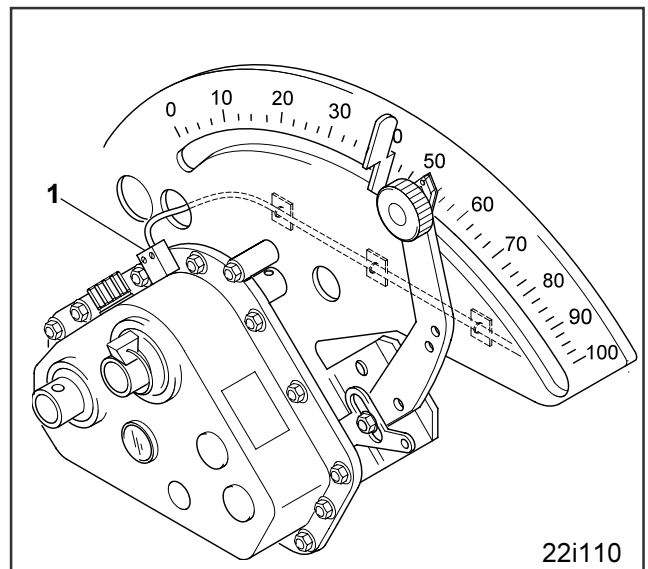

Fig. 26.6
- on implements without track markers as soon as the distance sensor (Fig. 26.6/1) does not send any impulses, e.g. when raising the implement at the headlands or at a standstill in the field.